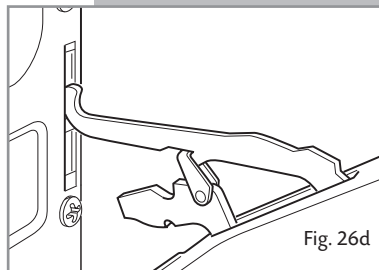

Fig. 26d
- Now pull the oven door forwards off the appliance. Release both hinge sections from the slots (fig. 26d).